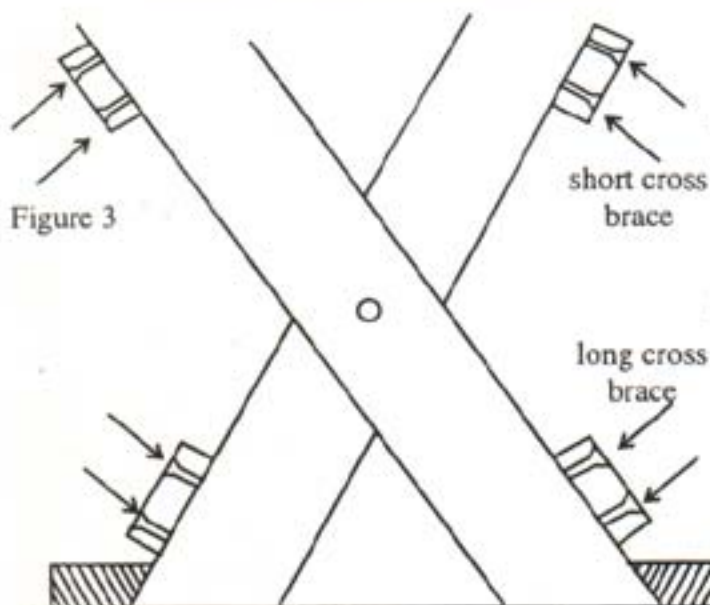

Figure 3
3) The two short cross braces are used to secure the two inside legs to each other as in figure 3. Attach the two braces, one near the bottom of the tabletop and the other about half way down the legs. Make sure that the cross braces do not stick out past the edge of the legs or it will impede the ability of the leg assembly to fold completely.